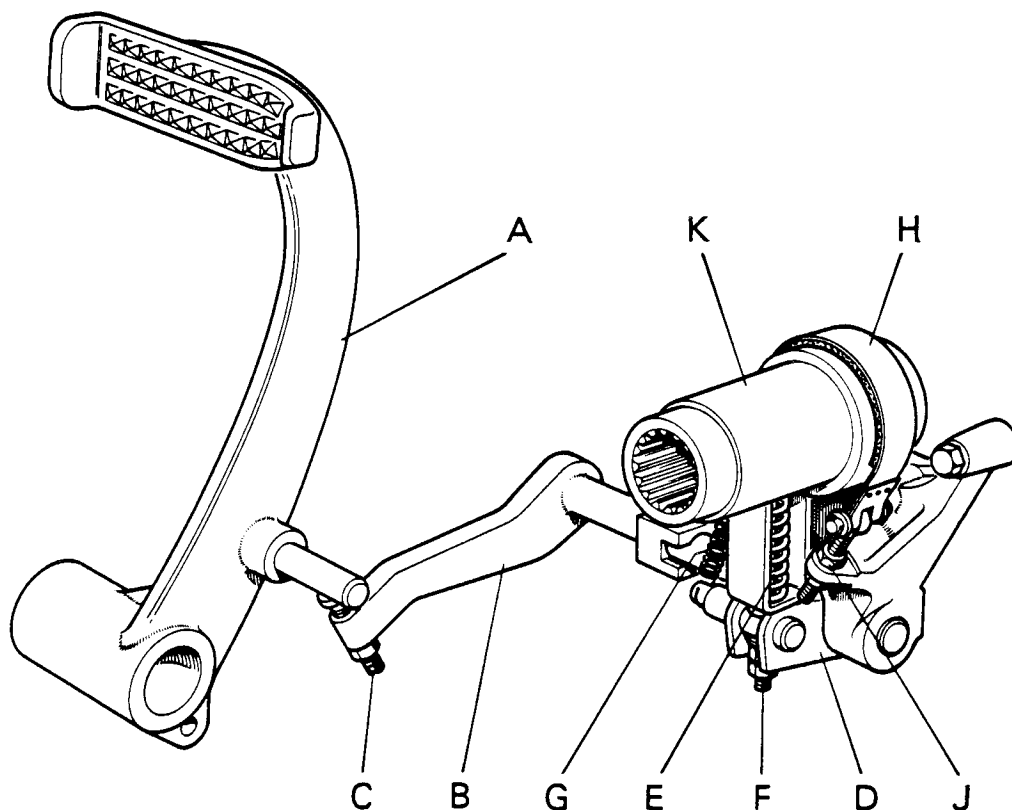

Figure 33. CLUTCH STOP — 1200 LIVEDRIVE TRACTORS
**Internal Setting (1200 Tractors):** Check the length of the compression spring E. (Fig. 33). This should be compressed to a length of  $2\frac{3}{8}$  in. (60.3 mm) and is set by means of the adjusting nuts on stud F. Screw adjusting screw C fully into the operating lever B and release pedal so that it is in the fully engaged position. With clutch stop mechanism held in the "off" position by return spring G, tighten nuts J until clearance between band and drum is just eliminated — take care not to overtighten nuts — then unscrew nuts two full turns and lock firmly. This will give correct clearance between band and drum. Finally set adjusting screw C so that when pedal is depressed to take up free-play and operating lever B is pressed lightly down, so that band is touching drum, screw head is  $\frac{1}{8}$  in. (1.6 mm) clear of pedal pin.